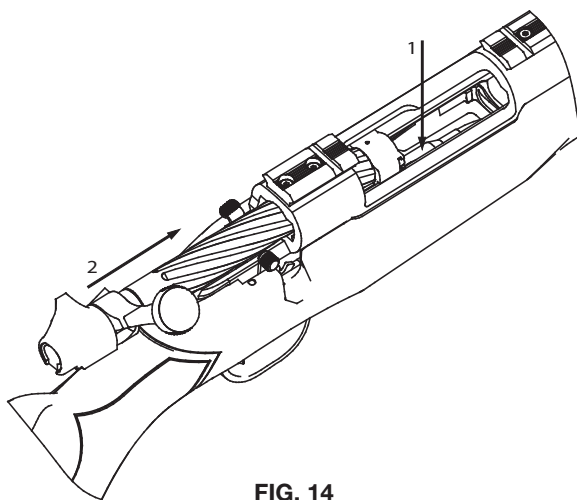

FIG. 14
If you wish to load the magazine but close the bolt on an empty chamber, press up to three (3) cartridges for magnum calibers or five (5) for standard non-magnum calibers, down into the magazine, one at a time. BEFORE closing the bolt, depress the top cartridge in the magazine with your thumb while slowly sliding the bolt forward so that it overrides the top cartridge in the magazine (Fig. 14). Keeping the muzzle pointed in a safe direction, remove your thumb and finish closing the bolt, watching to make sure that no cartridge is pushed into the chamber.